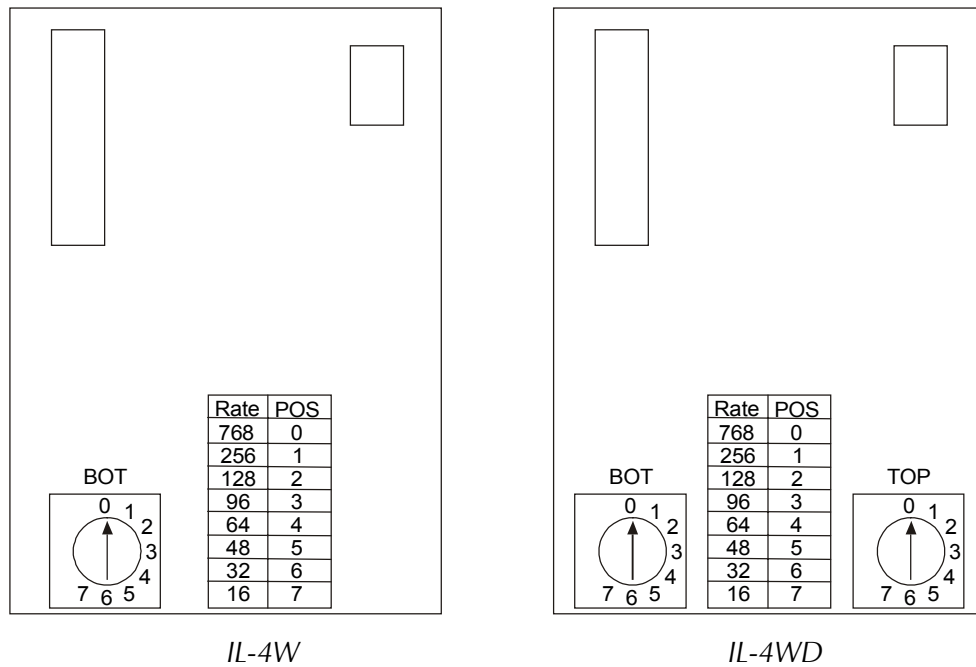

Figure 2-2. 4W Date Rate Selection
- Use the rotary switch on the 4W link interface card (see *Figure 2-2*) to select a data rate. The data rate may also be selected via the software (see the *LAN RANger Series Configuration Guide* for software configuration instructions). The data rates for maximum required range are listed in *Table 2-2*.